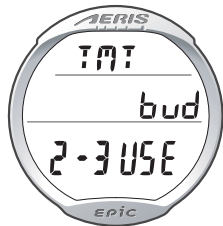

Fig. 112 - TMT 2-3 USE
- Press and hold the M button for 2 seconds while viewing a NORM DIVE MAIN screen to access the TMT 2-3 USE screen displaying the Set Point bud (Fig. 112). If SELF is displayed, indicating that the EPIC is set for FO2 GAS Switching, a Buddy Pressure Check cannot be performed.